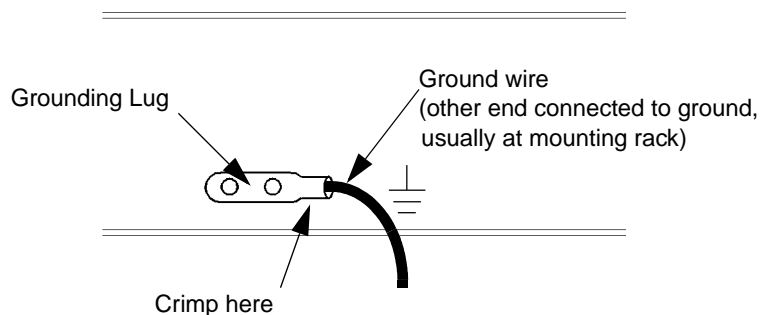

Figure 4-4. Grounding the SA 100
5. Replace the grounding lug on the rear of the SA 100 (as shown in **Figure 4-4**) and replace the washer, lock-washer and nuts onto each standoff. Tighten the nuts to secure the grounding lug.